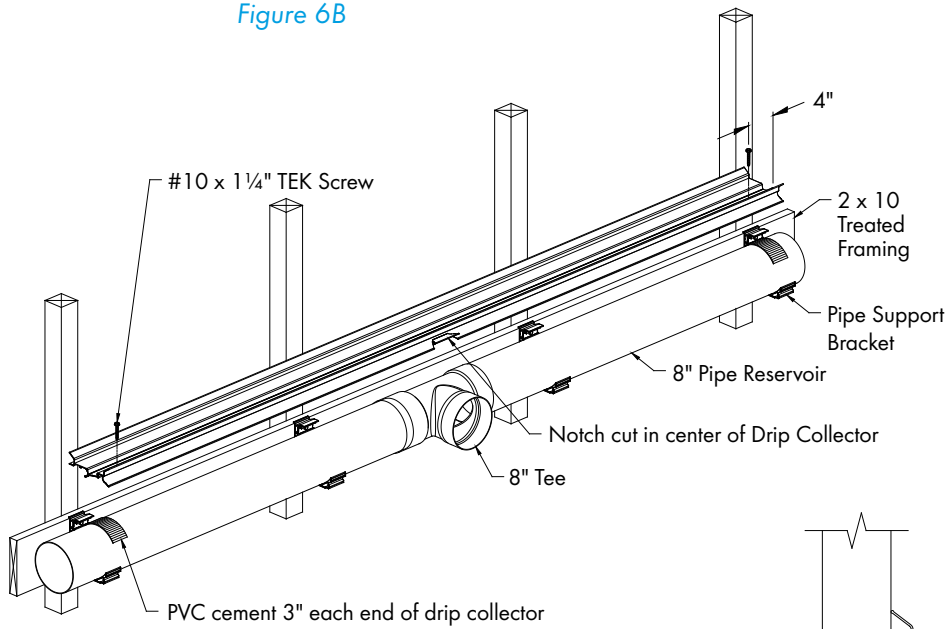

Figure 6D
Carefully lift end of drip collector off 8" pipe. Prime and PVC cement a 3" wide area on 8" pipe, at both ends of collector. Replace drip collector on the 8" pipe, keeping it level. Fasten each end of collector to 8" pipe using (1) #10 x 1 1/4" TEK screw located 4" from each end. See Figure 6D and 6E.